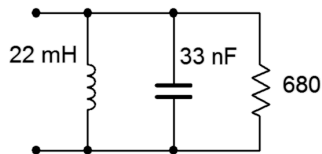

Figure 3.4
4. Determine the effective impedance of the network shown in Figure 3.4 at 20 kHz.